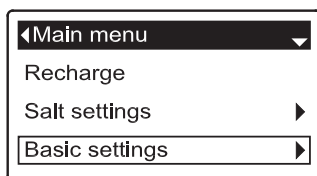

FIG. 44
1. From any of the rolling status screens, press the SELECT (O) button to display the **Main menu**.
2. Press the DOWN (▼) button to scroll through the menu options until **Basic settings** is highlighted (See Figure 44).